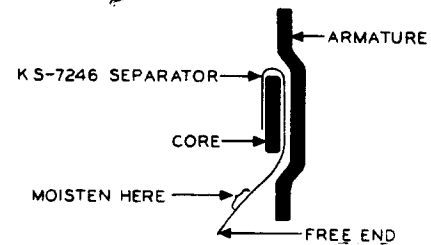

Fig. 12 - Method of Applying KS-7246 Separator
- (1) Before applying the separator, clean the armature and core as covered in 3.01. Check the armature travel, contact separation, and contact follow, and if necessary, readjust as covered in 3.11, 3.16, and 3.17, making any necessary corrections allowing approximately 0.002 inch for the thickness of the paper. This should minimize the adjustment outlined in (8).
- (2) Withdraw a strip of KS-7246 separator from the container and tear off a length that can be conveniently handled (approximately 3 or 4 inches).
- (3) Thread the separator between the armature and core with the gummed side toward the core until one end projects either at the top or bottom as convenient, for approximately 1-1/2 inch beyond the core. Moisten the projecting length of separator at the end for a distance of about 3/8 inch with the finger or with the KS-6320 orange stick dipped in water. Exercise care to thoroughly moisten the end of the strip but to avoid excessive moisture.
- (4) Pull the dry end of the separator strip until only the 3/8-inch moistened end projects beyond the core. Position the strip so that it is about 1/16 inch away from the spoolhead of the relay, and then press the 3/8-inch moistened end of the strip firmly against the side of the core away from the armature with the finger or the eraser. Hold it in this position and pull on the free end of the strip in a manner that will cause it to lie smoothly and tightly against the side of the core adjacent to the armature (see Fig. 12). Best results are obtained if the end of the paper that is stuck to the pole piece is allowed to dry for at least 3 to 5 minutes before fastening to the other end. ↴
- (5) When pulling on the paper always exercise extreme care not to pull with sufficient tension to tear the paper. Replace separators if the portion between the armature and core is torn, dirty, or damaged in any way. ↴
- (6) Continue the pull on the separator, press the armature against the core, and hold it in this position either manually or with the No. 136B tool. Then release the pull on the separator.
- (7) Moisten the free end of the separator strip for a short distance adjacent to the pole piece as indicated in Fig. 12 and wrap it evenly around the edge and over the pole piece in such a way as to overlap by at least 1/4 inch the 3/8 inch previously stuck. Cut off the excess paper. Remove the No. 136B relay blocking tool, if used.
- (8) Check for contact separation and contact follow, and if necessary, readjust as covered in 3.16 and 3.17. Check the electrical requirements, and if necessary, readjust the relay. ↴